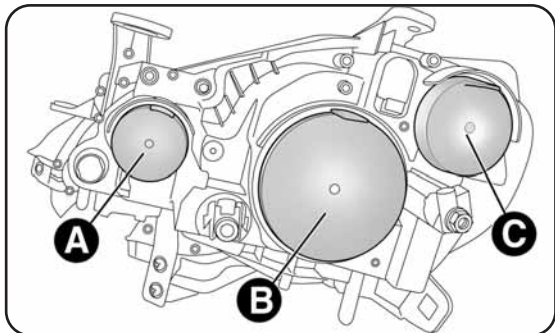

fig. 15
FRONT LIGHT CLUSTERS fig. 15
- remove the protective cover B-fig. 15;
- refit the protective cover A-fig. 15.
- remove the protective cover A-fig. 15;
- refit the protective cover B-fig. 15.
- remove the protective cover C-fig. 15;